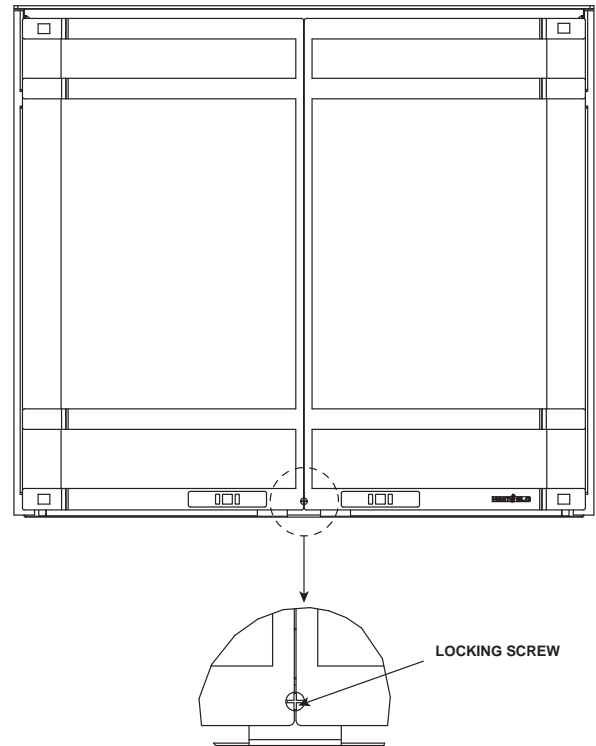

Figure 17. Locking Screw
- Open the doors and remove the door locking screw, which is fastened in the door locking nut. Close the doors and thread the door locking screw through the doors and into the door locking nut. The doors are now locked shut. To make the doors operable, remove the screw, open the doors and then replace the screw. See Figure 17.